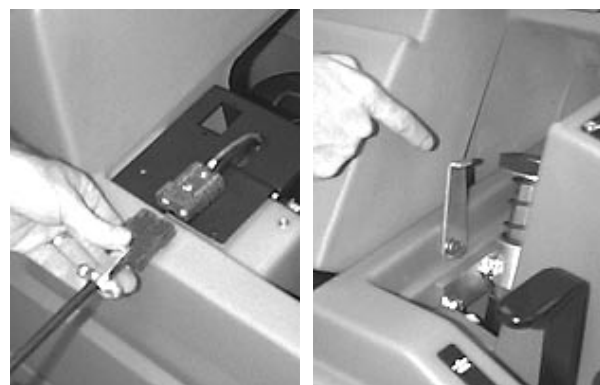

FIG. 29
5. With the charger's power supply cord unplugged, connect battery charger into machine's charging receptacle, as shown. Rest the recovery tank on the support stand to promote ventilation (Figure 29).